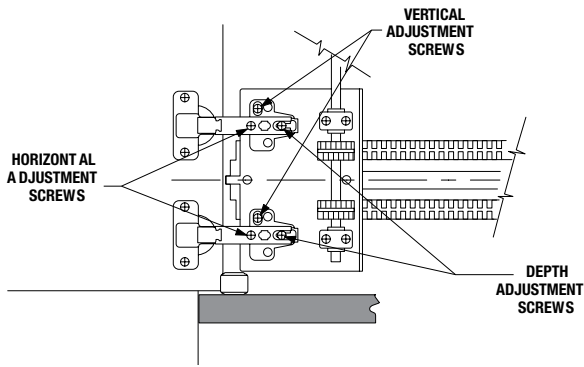

figure 10 TYPICAL FACE FRAME W/3/4" THICK INSET DOOR
- For face frame applications, the slide must be blocked out so that it is flush with the edge of the frame (fig. 10) . The blocking should be cut to a width of 2-3/4", and a length that matches the length of the slide for proper slide support.